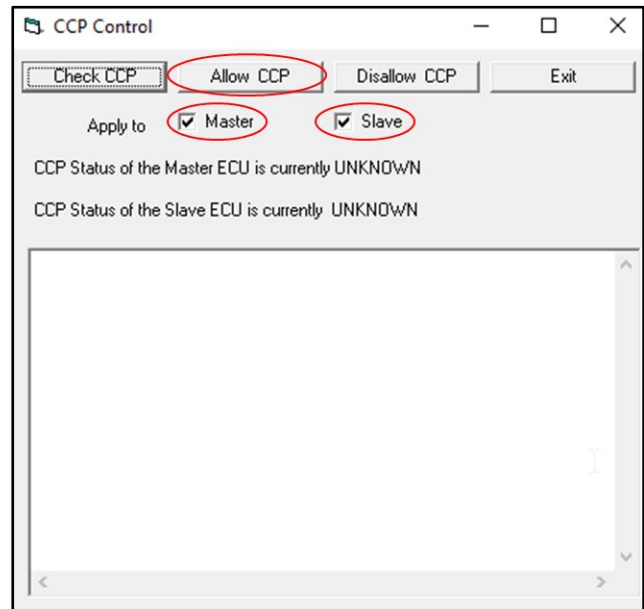

Figure 5
7. Make sure that "Master" and "Slave" are both selected and click "Allow CCP" (refer to Figure 5).